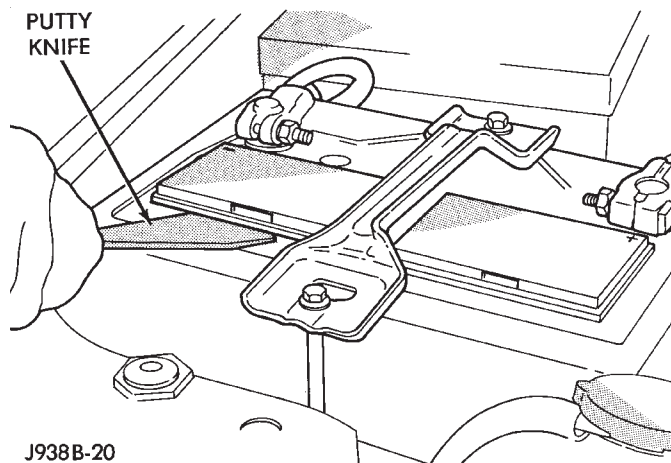

Fig. 13 Removing Cell Caps
(5) Inspect the battery tray and holddowns for corrosion or damage. Remove any corrosion using a wire brush and a sodium bicarbonate (baking soda) and warm water cleaning solution. Paint any exposed bare metal and replace any damaged parts.
(6) Inspect the battery case for cracks or other damage that could result in electrolyte leaks. Also, check the battery terminal posts for looseness. Batteries with damaged cases or loose posts must be replaced.
(7) Check the electrolyte level in the battery. Use a putty knife or another suitable wide flat-bladed tool to pry the cell caps off (Fig. 13). Do not use a screwdriver. Add distilled water to each cell until the liquid reaches the bottom of the vent well. **DO NOT OVERFILL.**
(8) Inspect the battery built-in test indicator sight glass for an indication of the battery condition. If the